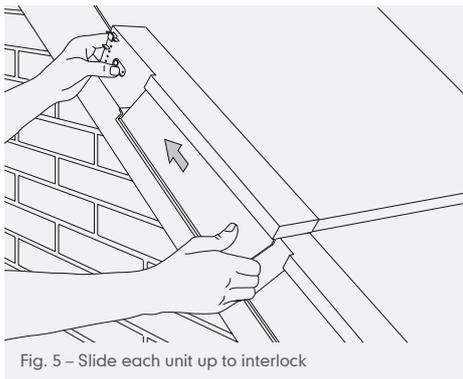

Fig. 5 – Slide each unit up to interlock
- 12 Successive dry verge units are interlocked together by sliding upwards against unit below, ensuring that lugs on outside of verge unit fit into internal locating slots (Fig. 5, page 148).